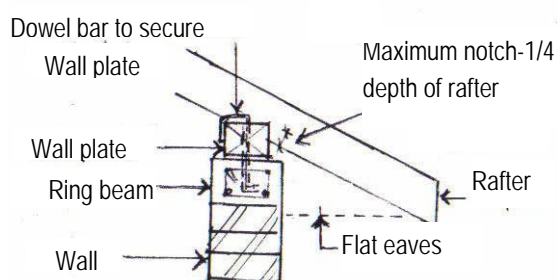

Fig 29 - **Detail section at wall plate**
- Made sure that rafters that sit on wall plates are notched, not less than $\frac{1}{4}$ depth of the rafter (See fig. 29)